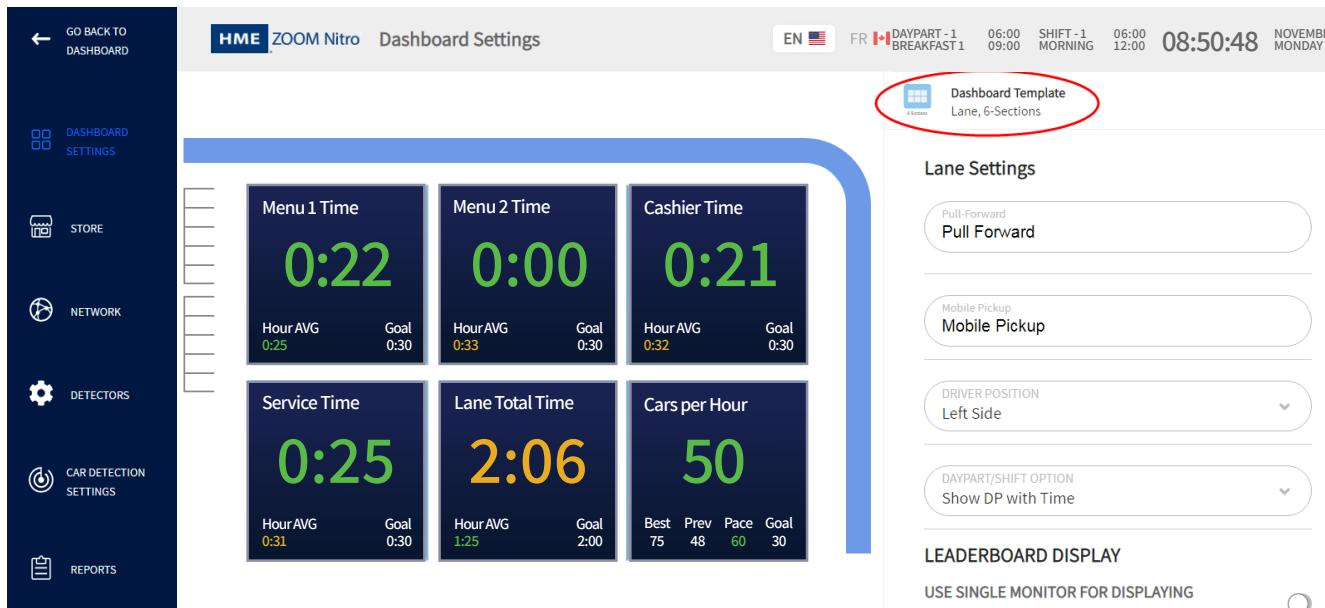

Fig. 3.1
**Why is it needed?** You may wish to configure and customize the look and feel of your Dashboard. This includes choosing what measured events you would like to display on your Dashboard. Click on any Data Section to open it for editing. The editable fields for the Data Section are displayed on the right side of the screen. For example, the Lane graphic in Fig. 3.1 was clicked so the **Lane Settings** fields on the right are available for editing.
**Screen details explained:** Fig. 3.1 shows a Single Lane layout, Fig. 3.2 shows how a typical Y Lane layout is displayed, while Fig. 3.3 shows what a Dual Lane layout looks like.
To adjust the layout of the Dashboard screen, click on the  icon found in the upper portion of the screen or the adjacent down arrow icon  next to it (see Fig. 3.1).